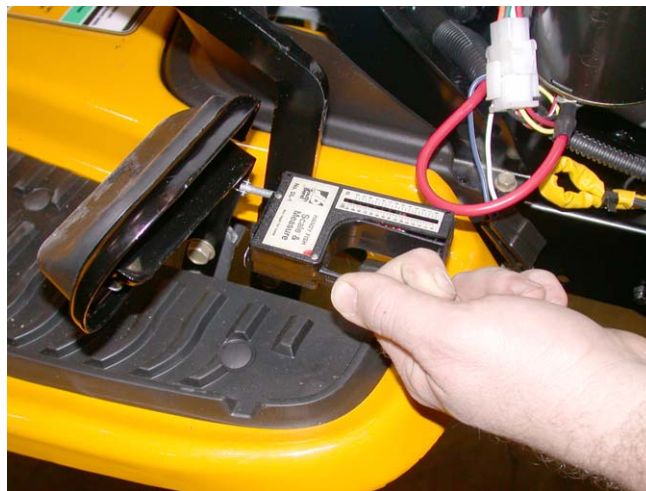

Figure 18.10
18.10. The double idler bracket should move with about 10 lbs pressure applied to the pedal, and return under spring pressure as the pedal is released. See Figure 18.10.